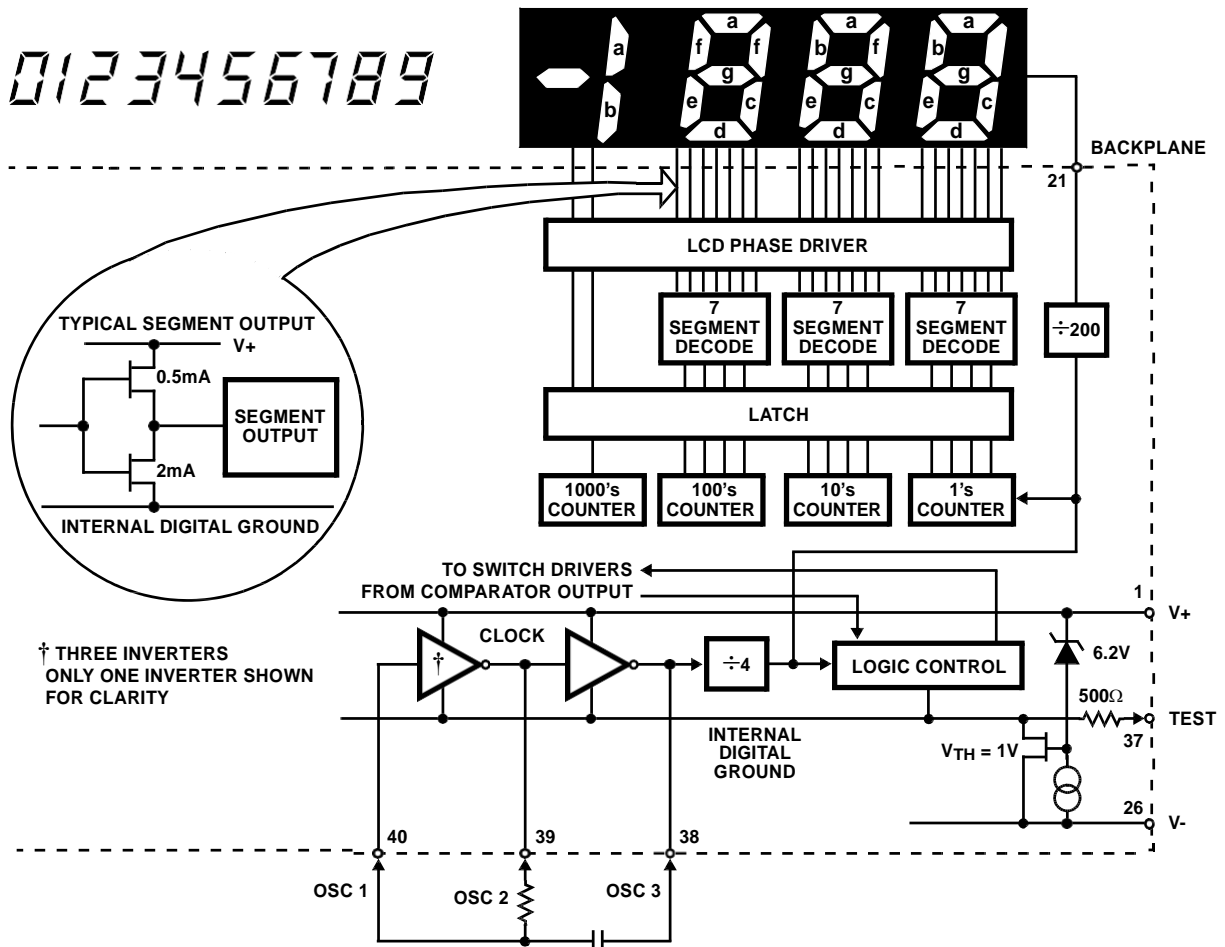

FIGURE 6. HT7126A DIGITAL SECTION
Figure 6 shows the digital section for the HT7126A. In the HT7126A, an internal digital ground is generated from a 6V Zener diode and a large P-Channel source follower. This supply is made stiff to absorb the relatively large capacitive currents when the back plane (BP) voltage is switched. The BP frequency is the clock frequency divided by 800. For three readings/second this is a 60Hz square wave with a nominal amplitude of 5V. The segments are driven at the same frequency and amplitude and are in phase with BP when OFF, but out of phase when ON. In all cases negligible DC voltage exists across the segments.